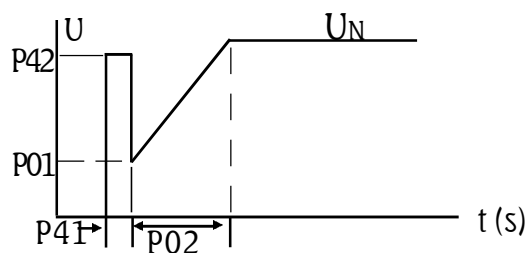

Figure 6.5 - Voltage pulse at the start
- The voltage pulse at the start, when enabled, defines the time during which this voltage pulse (P42) will be applied to the motor, so that the motor succeeds to accelerate the initial moment of inertia of the load coupled to its shaft, as shown in Figure 6.5.
- ☑ This function determines the voltage level applied to the motor, so it is able to accelerate the inertia process of the load, as shown in Figure 6.5.